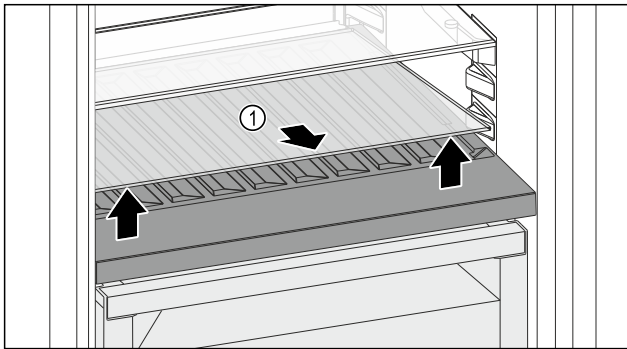

Fig. 98
- ▶ Lift the glass shelf Fig. 98 (1) at the front and remove.
- ▶ Store the glass shelf Fig. 98 (1) in a safe place outside the appliance.